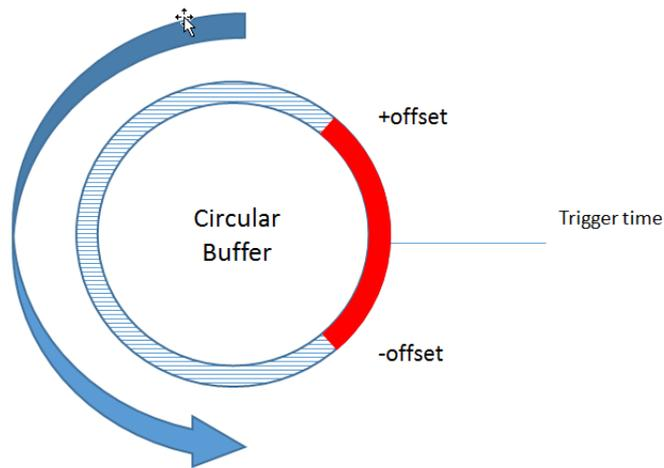

Figure 4.1: The circular buffer and the offset
*Ofst* is a 12-bit word defining the offset in the circular memory. When a trigger fires when writing the Current Address (*CA*), all the words between *CA-offset* and *CA+offset* will be read by the FPGA (figure 4.1).